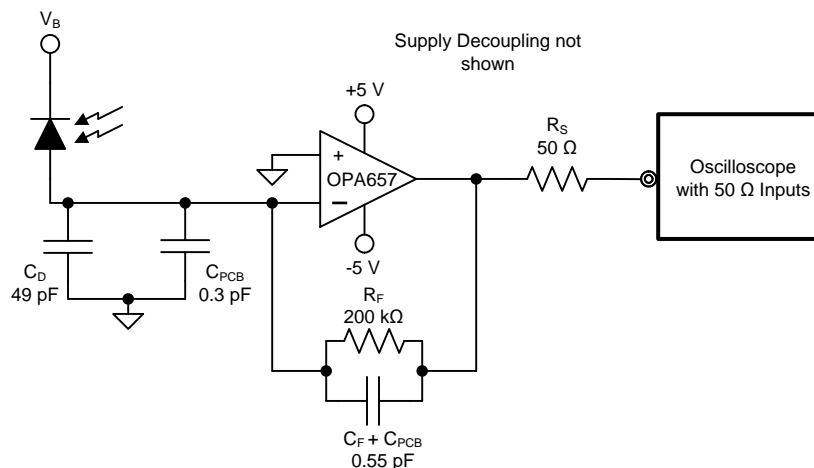

Figure 34. Wideband, High-Sensitivity, Transimpedance Amplifier Diagram
this term only begins to be a significant term versus the input offset voltage for source impedances greater than 750 k Ω . This would also be the feedback resistor value for transimpedance applications (see Figure 34) where the output DC error due to inverting input bias current is on the order of that contributed by the input offset voltage. In general, except for these extremely high-impedance values, the output DC errors due to the input bias current may be neglected.
As an example, compute the worst-case output DC error for the transimpedance circuit of Figure 34 at 25°C and then the shift over the 0°C to 70°C range given the following assumptions.
Designs that require high bandwidth from a large area detector with relatively high transimpedance gain benefit from the low input voltage noise of the OPA657. This input voltage noise is peaked up over frequency by the diode source capacitance, and can, in many cases, become the limiting factor to input sensitivity. The key elements to the design are the expected diode capacitance (C_D) with the reverse bias voltage (V_B) applied, the desired transimpedance gain, R_F , and the GBP for the OPA657 (1600 MHz). Figure 34 shows a transimpedance circuit with the parameters as described in Table 1. With these three variables set (and including the parasitic input capacitance for the OPA657 and the PCB added to C_D), the feedback capacitor value (C_F) may be set to control the frequency response. To achieve a maximally-flat second-order Butterworth frequency response, the feedback pole should be set to:
Adding the common-mode and differential mode input capacitance ($0.7 + 4.5$) pF and the trace PCB capacitance of approximately 0.3 pF to the 49-pF diode source capacitance of Figure 34, and targeting a 200-kΩ transimpedance gain using the 1600-MHz GBP for the OPA657 requires a feedback pole set to 3.5 MHz. This requires a total feedback capacitance of 0.2 pF. Such low capacitance values are difficult to achieve due to parasitics from the PCB and the surface mount components.
Equation 8 gives the approximate closed loop bandwidth of the system to be 4.8 MHz. Because the target bandwidth is only 1 MHz, the feedback capacitance can be increased to a more practical value while maintaining the bandwidth requirements of the design. A feedback capacitance of 0.550 pF was chosen. This includes the physical 0.4-pF feedback capacitor in addition to the 0.1-pF parasitic capacitance from the feedback resistor and around 50-fF capacitance from the PCB traces. Removing the ground and power planes from under the surface mount components helps to minimize this parasitic capacitance. The simulated closed loop bandwidth of Figure 34 was 1.7 MHz. The phase margin was close to 82°. This design should result in a system with negligible overshoot to a pulsed input.
3. **Careful selection and placement of external components preserve the high-frequency performance of the OPA657.** Resistors should be a very low reactance type. Surface-mount resistors work best and allow a tighter overall layout. Metal film and carbon composition axially leaded resistors can also provide good high-frequency performance. Again, keep the leads and PCB trace length as short as possible. Never use wirewound-type resistors in a high-frequency application. Because the output pin and inverting input pin are the most sensitive to parasitic capacitance, always position the feedback and series output resistor, if any, as close as possible to the output pin. Other network components, such as noninverting input termination resistors, should also be placed close to the package. Where double-side component mounting is allowed, place the feedback resistor directly under the package on the other side of the board between the output and inverting input pins. Even with a low parasitic capacitance shunting the external resistors, excessively high resistor values can create significant time constants that can degrade performance. Good axial metal film or surface-mount resistors have approximately 0.2 pF in shunt with the resistor. For resistor values greater than $1.5\text{ k}\Omega$, this parasitic capacitance can add a pole and/or zero below 500 MHz that can effect circuit operation. Keep resistor values as low as possible consistent with load driving considerations. It has been suggested here that a good starting point for design would be to keep $R_F \parallel R_G < 150\text{ }\Omega$ for voltage amplifier applications. Doing this automatically keeps the resistor noise terms low, and minimizes the effect of the parasitic capacitance. Transimpedance applications (see Figure 34) can use whatever feedback resistor is required by the application as long as the feedback-compensation capacitor is set considering all parasitic capacitance terms on the inverting node.